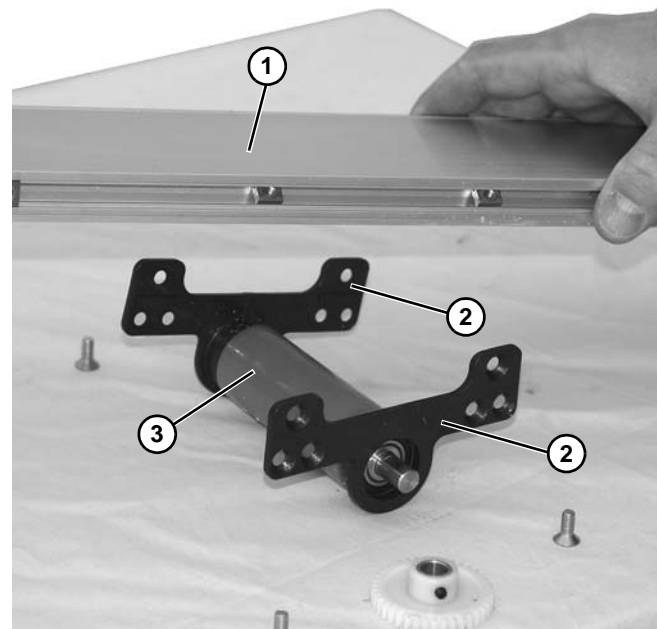

Figure 40
2. Install pinch plates (**Figure 40, item 2**) onto roller (**Figure 40, item 3**).
3. Install conveyor (**Figure 40, item 1**) onto pinch plate assembly.